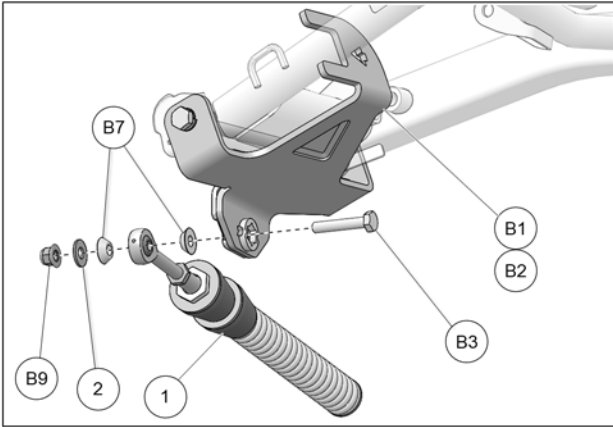

Fig. 10
11. Attach stabilizing rod (1) to anchor bracket (B1-B2), using bolt (B3), taper spacer bushings (B7), washer (2), and nut (B9). Torque to 70 N•m [52 lb•ft]. See Fig. 10